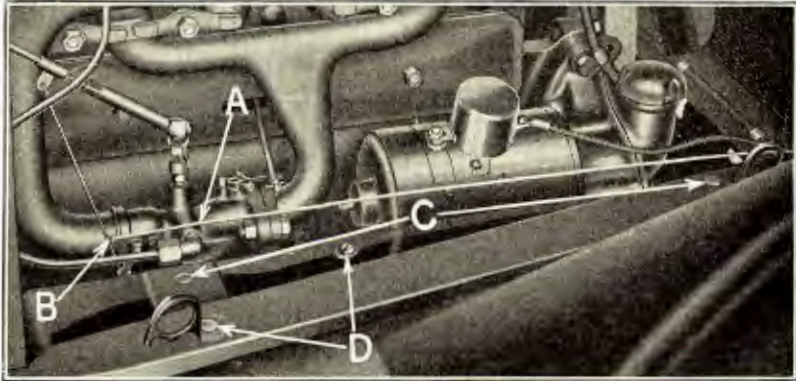
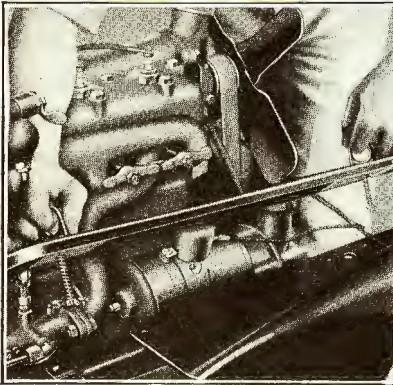

Fig. 524
Fig. 532
- 1126 Open pet cock underneath radiator and while water is draining, lift off hood and disconnect priming rod (see "A" Fig. 524) by unhooking it from carburetor butterfly "B."
1134 Run off the nuts on the ends of the two engine pan bolts (see "C" Fig. 524) also the nuts on the ends of the two hood block bolts
"D" Fig. 524. Hood block can then be lifted from frame as shown in Fig. 532.
- 1143 Insert headlamp wire into notch in hood block and position hood block on frame lining up bolt holes in hood block with holes in frame. The two engine pan bolts (see "C" Fig. 524) are then inserted through hood block, frame and engine pan; lockwashers being placed over the ends of each bolt and nuts run down but not tightened until all fender bolts are entered.
- 1144 Place a flat washer over the end of one of the two hood block bolts (see "D" Fig. 524) and insert the bolts through the hood block. Place a lockwasher and nut over the ends of each of the two bolts and draw the nuts down tightly.
- 1152 Connect carburetor priming rod to carburetor butterfly by inserting priming rod through radiator apron and hooking it into carburetor butterfly. (See "B" Fig. 524.)